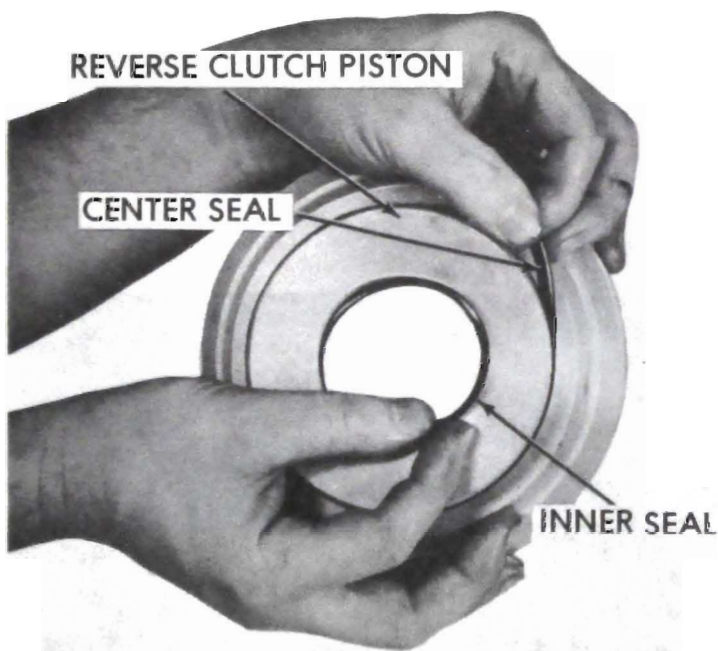

Figure 75-223
2. Install low and reverse clutch piston center and inner seal. See Figure 75-223.